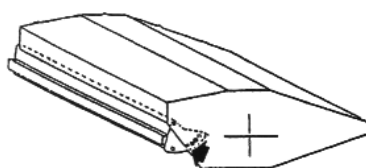

Fig. 5
3. The hatch is used in position (*Fig. 5*) to allow the grass clippings to escape above the roller.